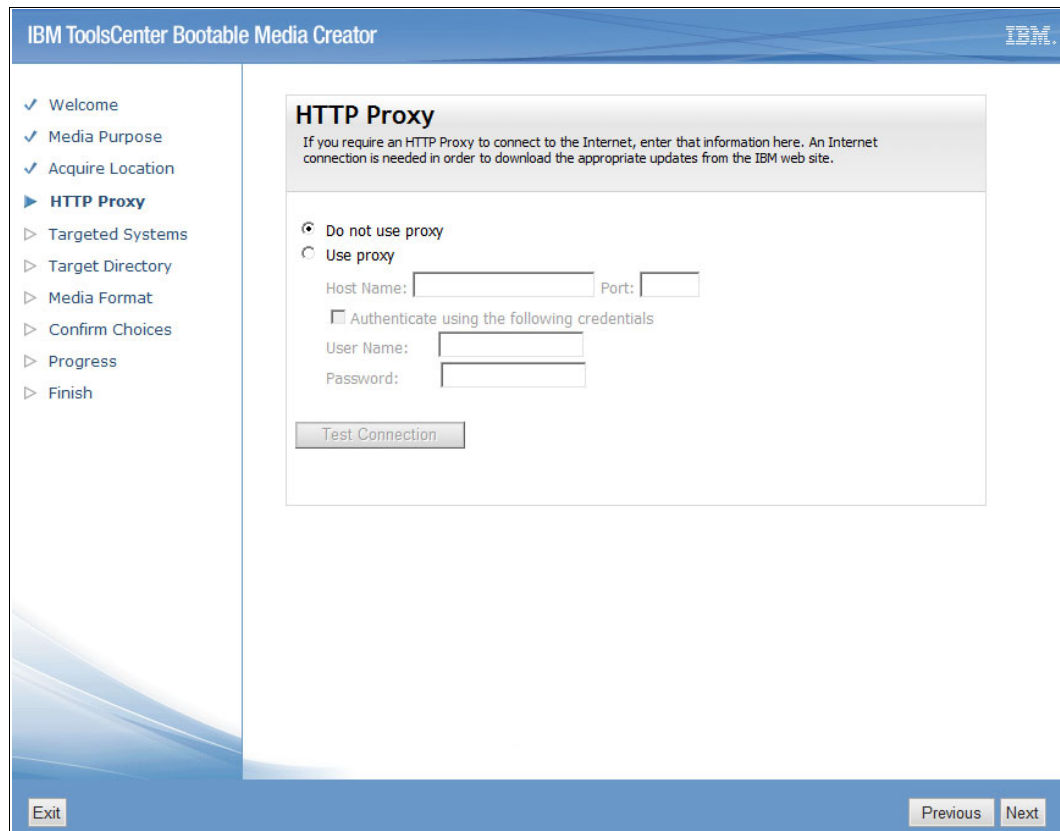

Figure 6-4 BoMC HTTP Proxy window
5. If you chose either download option in the Acquire Location window, the HTTP Proxy window shown in Figure 6-4 on page 119 opens. Enter HTTP proxy settings if required, or leave the default if you are not using a proxy and direct Internet access is enabled on your local machine.